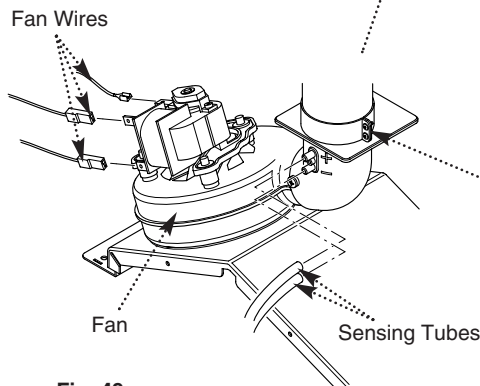

Fig. 49
7. Note the positions of the two sensing tubes on the outlet elbow and three wires on the fan motor and remove them (Fig. 49).